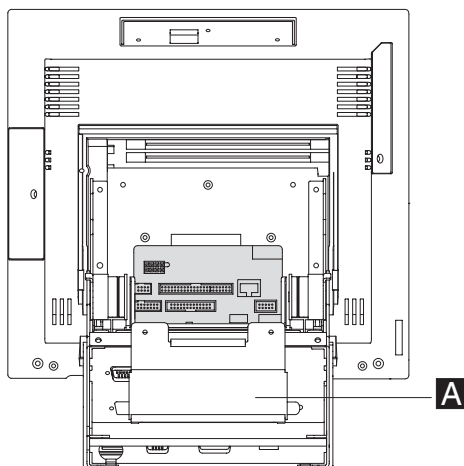

Figure 69. Removing the system board connector cover
6. The system-board connector cover **A** is located just below the center of the back of the display with two screws. Loosen the captive screws until the cover can be lifted off of the retaining tabs as shown in Figure 69. Do not unplug the HDD power cable or data connector from the system board.